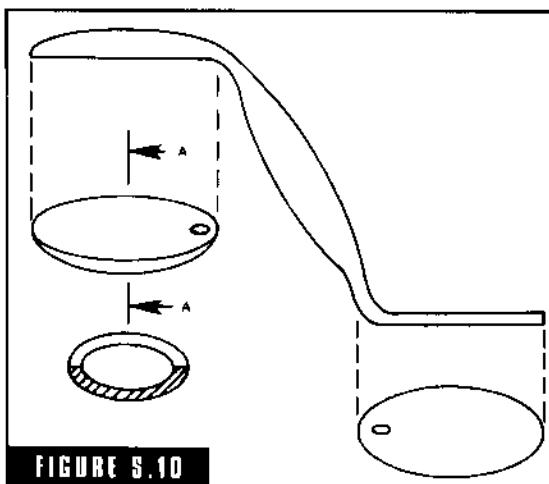

FIGURE S-10
**slick and oval spoon** This tool is a must for all molders (Fig. S-10). The size needed is determined by the work involved. Most molders have at least four sizes from the little tiny one that is  $\frac{1}{4}$  inch wide to the big one 2 inches wide. This tool is called a *doubler ender* in the trade. One end is a slick similar to a heart trowel blade but